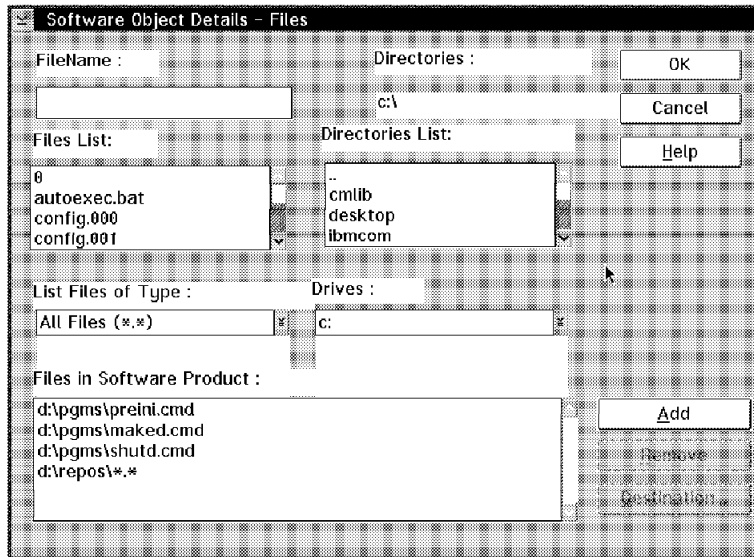
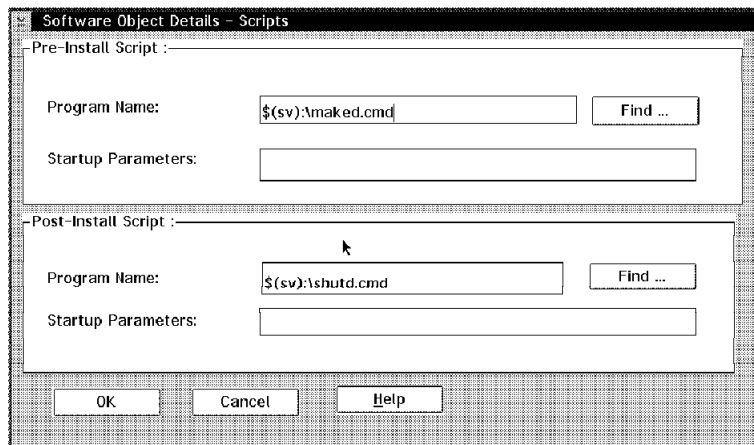
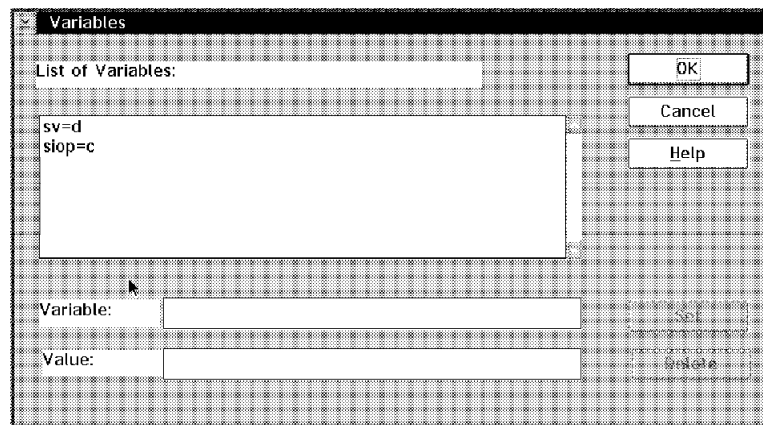

Figure 306. Object Details Files
Figure 307. Files Destination
Figure 308. Object Details Variables
The process to add this information has been explained in Chapter 4, “Automating Software Package Install” on page 77. Please refer to it in order to add the files. Figure 306 shows the files that have to be added. Figure 307 shows where to put each script. Finally, Figure 308 on page 187 contains the variables we used. These variables point to the logical drive in which you want to install the files. Make sure you change the values as soon as you get to the Software Preparation GUI. In order to change the value of these variables, you will need to do the following:
- Once you have selected the files that are part of the change file, you can add the script for pre- and post-installation as shown in Figure 307 on page 186.